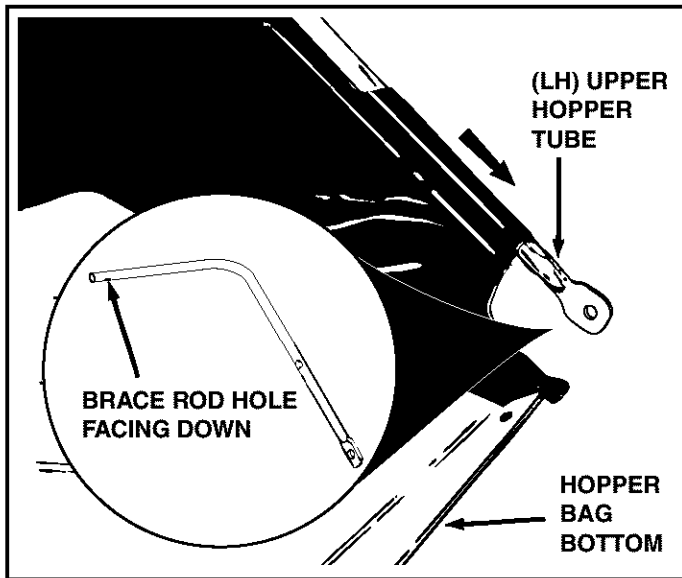

FIGURE 9
- Hold the (LH) upper hopper tube so that the hole for the brace rod faces down. Insert the (LH) upper hopper tube down through the stitched flap on the left side of the hopper bag. Repeat for the right hand upper hopper tube. See figure 9.